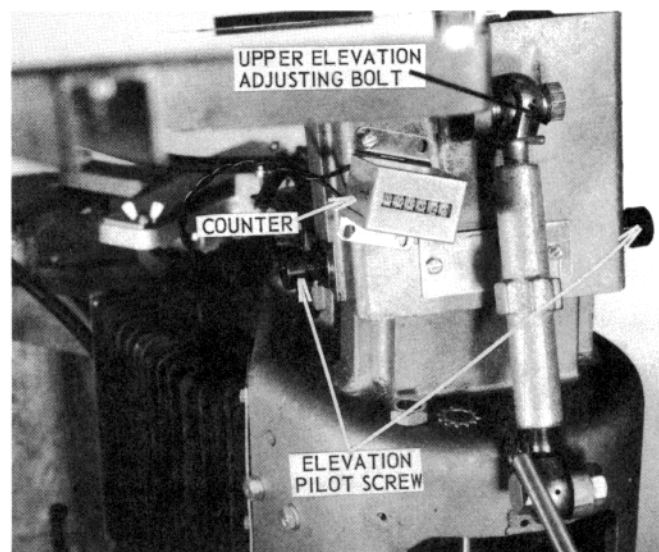

Figure 31 — Counter, Elevation Adjusting Assembly Bolts, and Elevation Pivot Screws
- 1.2.6 Remove the two counter screws, but leave the connecting wires attached (see Figure 31).
- 1.2.7 Remove the upper elevation adjusting assembly bolt (see Figure 31).
- 1.2.8 Remove both elevation pivot screws (see Figure 31).